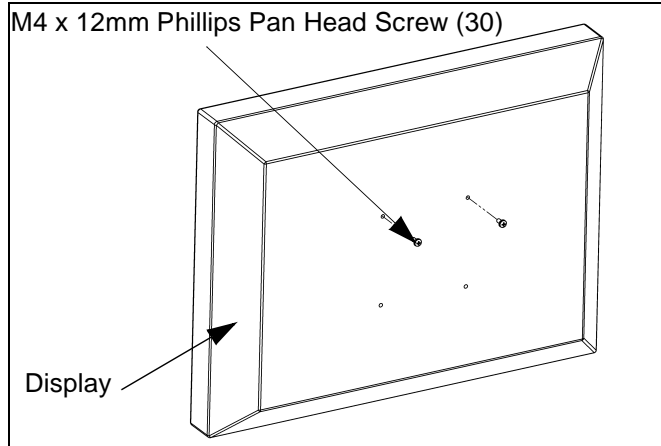

Figure 3: Prepare Display
1. Install two M4 x 12mm Phillips pan head screws (30) into two upper mounting holes in display back. (See Figure 3)